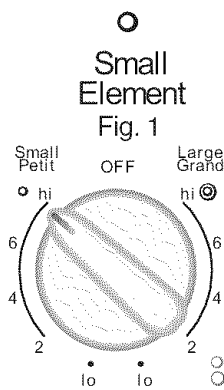

Fig. 3
2. Push in and turn the control knob counterclockwise (See Fig. 3) for smaller cookware or clockwise (See Fig. 4) for larger cookware.